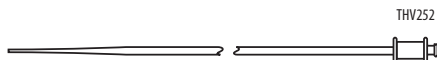

Figure 2
- two dilators (Fig 2) with hydrophilic coating that can either be used to dilate the vessel to accommodate the sheath and/or facilitate entry and trackability of the sheath into the vessel.